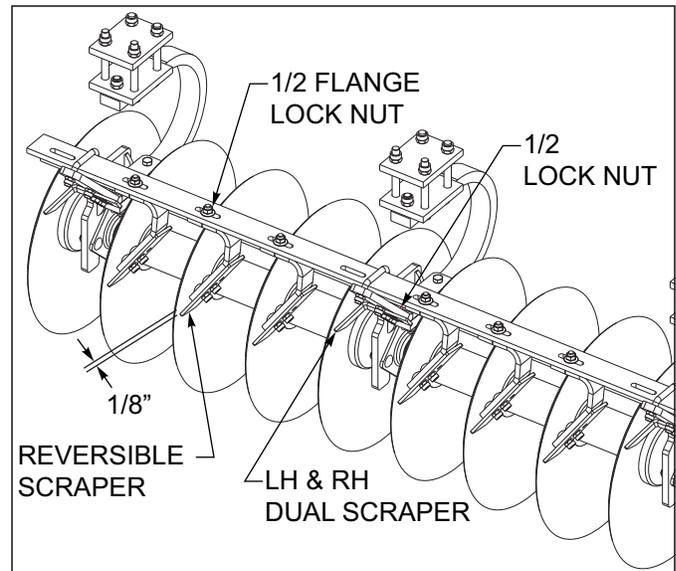

Figure 4-1: Disc Scraper Adjustment to Disc Blade
5. Check disc scrapers for proper adjustment to the disc blade See Figure 4-1. The scraper should be 1/8" from disc blade. To adjust the reversible scraper loosen the 1/2 flange nut and slide scraper arm until the 1/8" clearance is obtained. Repeat same procedure for the LH or RH dual scraper by loosening the 1/2 lock nut. Re-tighten all nuts. The scraper blades are reversible to allow extended use before replacement is required.